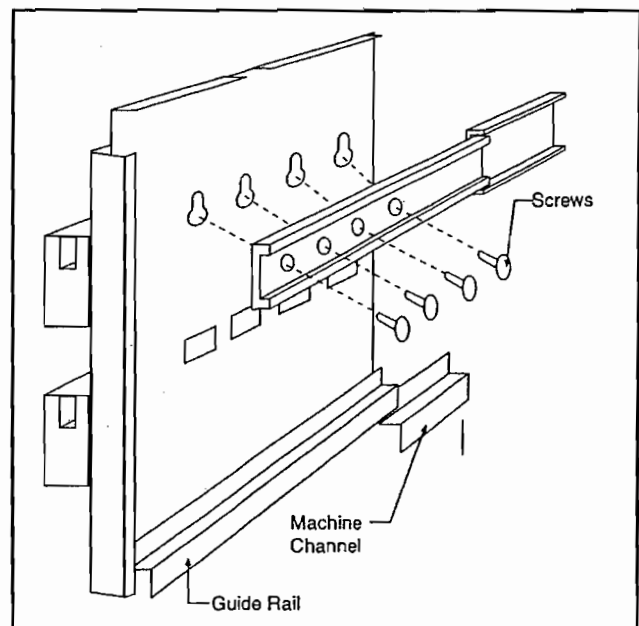

Figure 5-4
3. Lower the front end of the shelf so that it will hang vertically in front of the machine (See Figure 5-4). Lower shelves will not hang vertically.